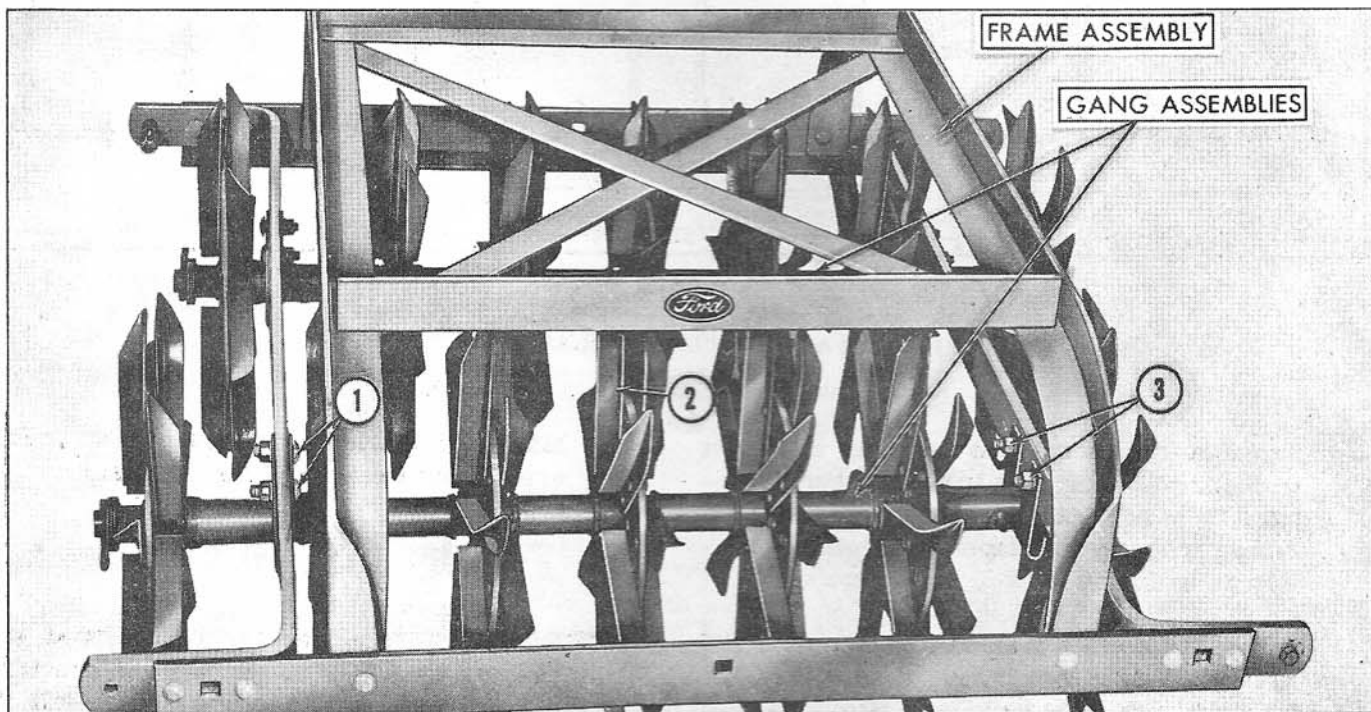

Figure 3
1. Assemble two rotary hoe gang assemblies and hangers to a frame assembly with four 7/16" x 1-1/4" carriage bolts, washers and nuts as shown at (1) and (3), Figure 3.
semblies as shown in Figure 3, with the frame decal facing the rear.